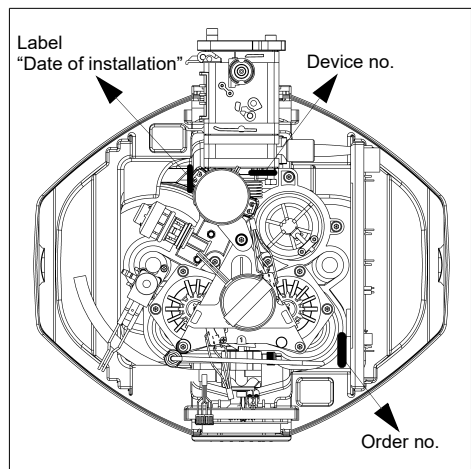

Fig. 12: Device and order no. plus label "Date of installation"
- Enter the date of installation on the label (see fig. 12).